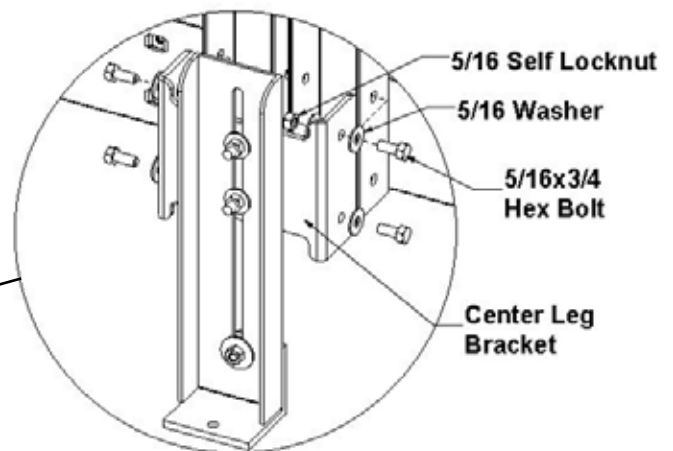

Fig.3.14
3.6 Multi-platform Leg Attachment: After the platforms have been combined together and the handrail has been attached, find the Center Leg Bracket. To secure in place, have the bracket cup the posts of the handrail. Place a 5/16 x 3/4 hex bolt with 5/16 washer through the hole on the outside of the Center Leg Bracket. Use a 5/16 self locknut on the opposite side of the handrail to secure into place (**Fig.3.14**). Note for lower landing heights: It may be easier to attach this bracket by tipping the combined platforms on their side..